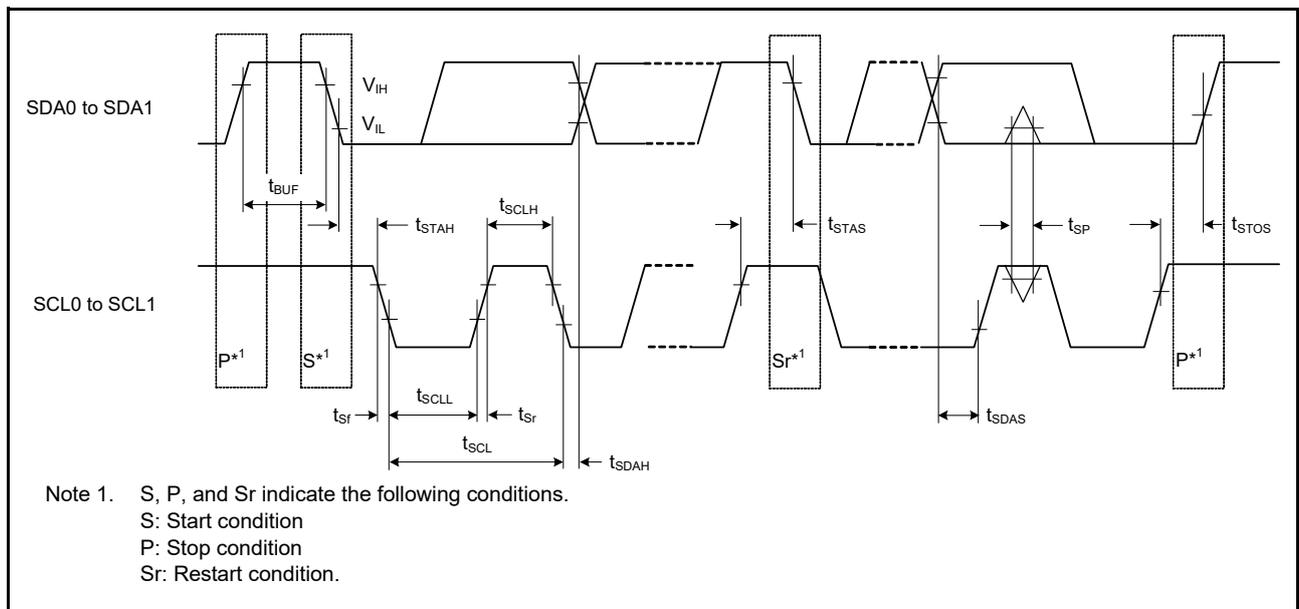

Figure 2.59 IIC bus interface input/output timing
| IIC (standard mode, SMBus) | SCL input cycle time | t_{SCL} | $6 (12) \times t_{IICcyc} + 1300$ | - | ns | Figure 2.59 |
| IIC (Fast mode) | SCL input cycle time | t_{SCL} | $6 (12) \times t_{IICcyc} + 600$ | - | ns | Figure 2.59 For all ports except P408, use PmnPFS.DSC R of middle drive. For port P408, use PmnPFS.DSC R1/DSCR of middle drive for IIC fast-mode. |